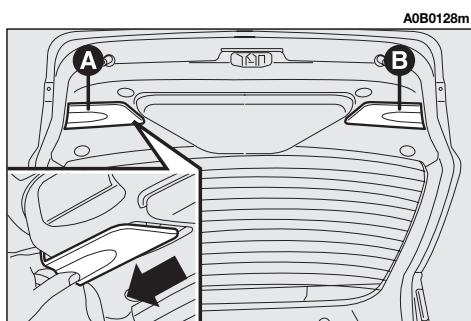

fig. 48
- Remove the cover (**A** or **B**-fig. 48) in correspondence with the light concerned, withdrawing it at the side.
- Refit the lid (**A** or **B**-fig. 48) inserting it from outside until it fits in.